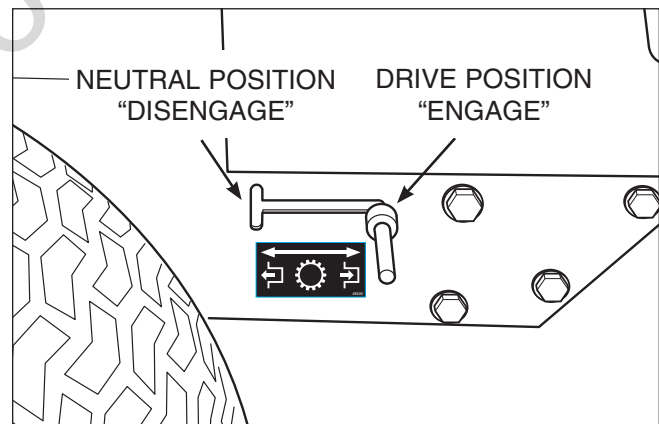

Figure 5. Hydraulic Release Rod
2. Slide the hydraulic release rod forward and lock into the top of the “T” slot. See Figure 5.